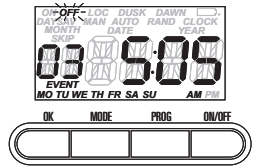

Fig. 16
4. Press **PROG** again. **ON** or **OFF** will be flashing (Fig.16).